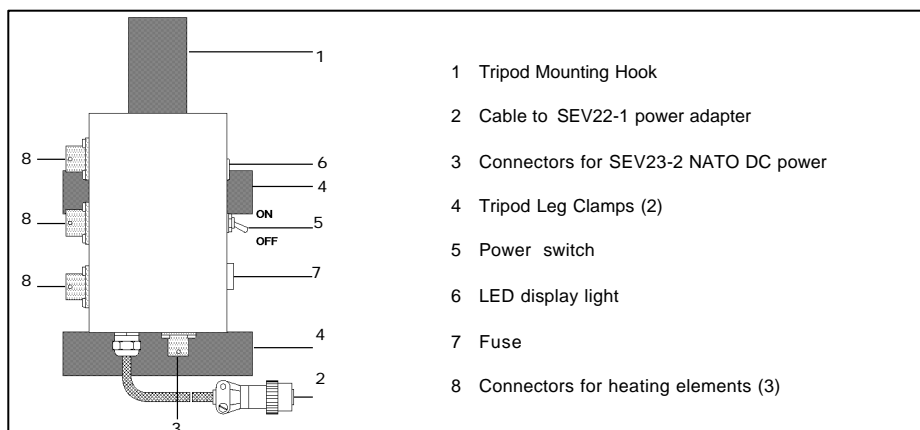
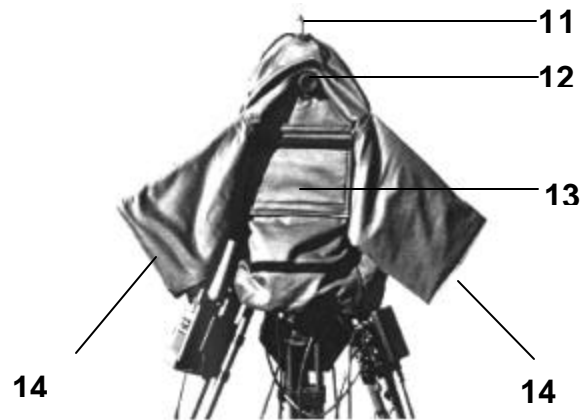

Figure 2-10. Power Supply Distribution Box
Figure 2-11. Winterization Kit Mounted
- e. Connect the SKK3-08 gyroscope upper and lower housing heating element cables and the theodolite heating element cable to the connectors (8) on the power supply distribution box (Figure 2-10). Connect cable (2) from the Power Supply Distribution Box to the SEV22-1 Power Adapter Mounted on the gyroscope.
- f. Mount the upper insulation cover over the theodolite (Figure 2-11). Pull the cover over the theodolite, inserting the target rod through the opening at the top of the cover (11). Align the window (13) to provide an unhindered view of the display and keyboard. Align the opening for the telescope eyepiece (12) over the telescope eyepiece. Secure the openings for the telescope objective and laser exit window on the back side of the instrument over the telescope objective. Secure the upper insulation blanket in place with the pull cord.
- g.** Connect the SEV23-2 NATO DC power cable to the connector (3) located on the power supply distribution box as shown in Figure 2-10. Connect the NATO slave adapter on the power cable to the NATO connector on the vehicle. Move the power switch (5) on the power supply distribution box to the ON position. Verify the LED display light (6) is illuminated. This will indicate the system is operating properly. Operate the GLPS as in normal operations through the two sleeves (14) as shown in Figure 2-11.